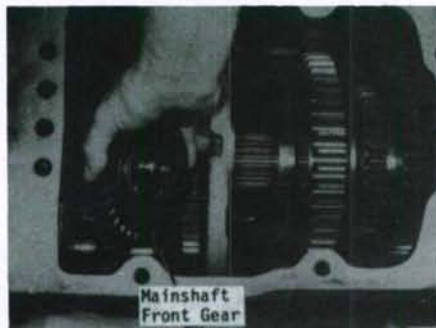
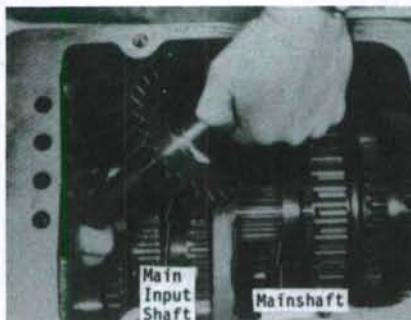

Fig. 188—Groove for shift fork should be toward the rear on mainshaft front sliding gear.
Fig. 189—Transmission input shaft is withdrawn rearward through top opening as shown.
lined in paragraph 161. Remove cover plate (36), snap ring (38) and washer (39) from front of pto lower shaft (46). Thread two 3/8 inch UNC cap screws into tapped holes of bearing retainer (42) and tighten evenly to pull retainer with bearing from front of pto shaft. Pull pto shaft rearward to allow pto drive gear (45) to drop to bottom of housing. Remove mainshaft front sliding gear (Fig. 188), then withdraw input shaft from housing as shown in Fig. 189.